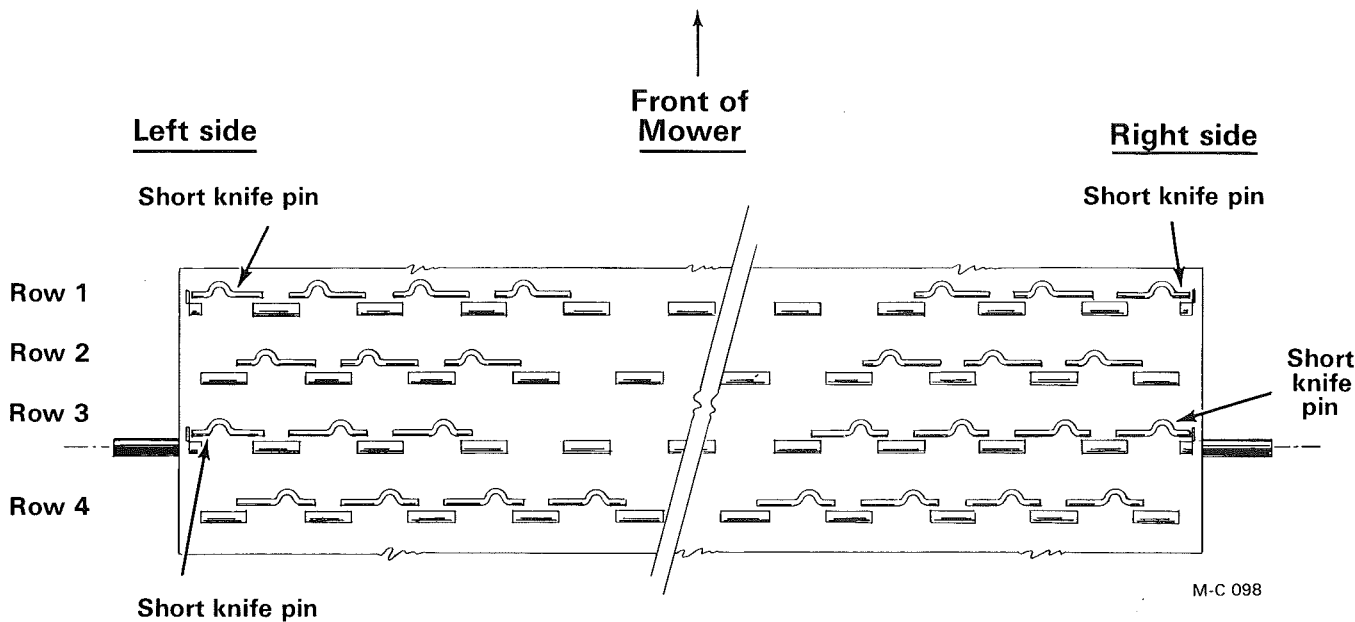

Figure 36
**IMPORTANT:** To get the correct overlap of style 1 and 2 knives, the knife pins must be installed as shown in Figure 36.
4. Model 7 HD and 10 HD have four short knife pins ( $\frac{3}{4}$ " OD x  $6\frac{1}{2}$ " long) on the rotor and they must be installed at each end of row 1 and 3 as shown in Figure 36. These two rows are 180° apart. All other knife pins are  $\frac{3}{4}$ " OD x  $7\frac{1}{2}$ " long.
6. The short end of all pins go to the left on rows 1 and 2 and to the right on rows 3 and 4 except the right side of row 1 and the left side of row 3 as shown in Figure 36.